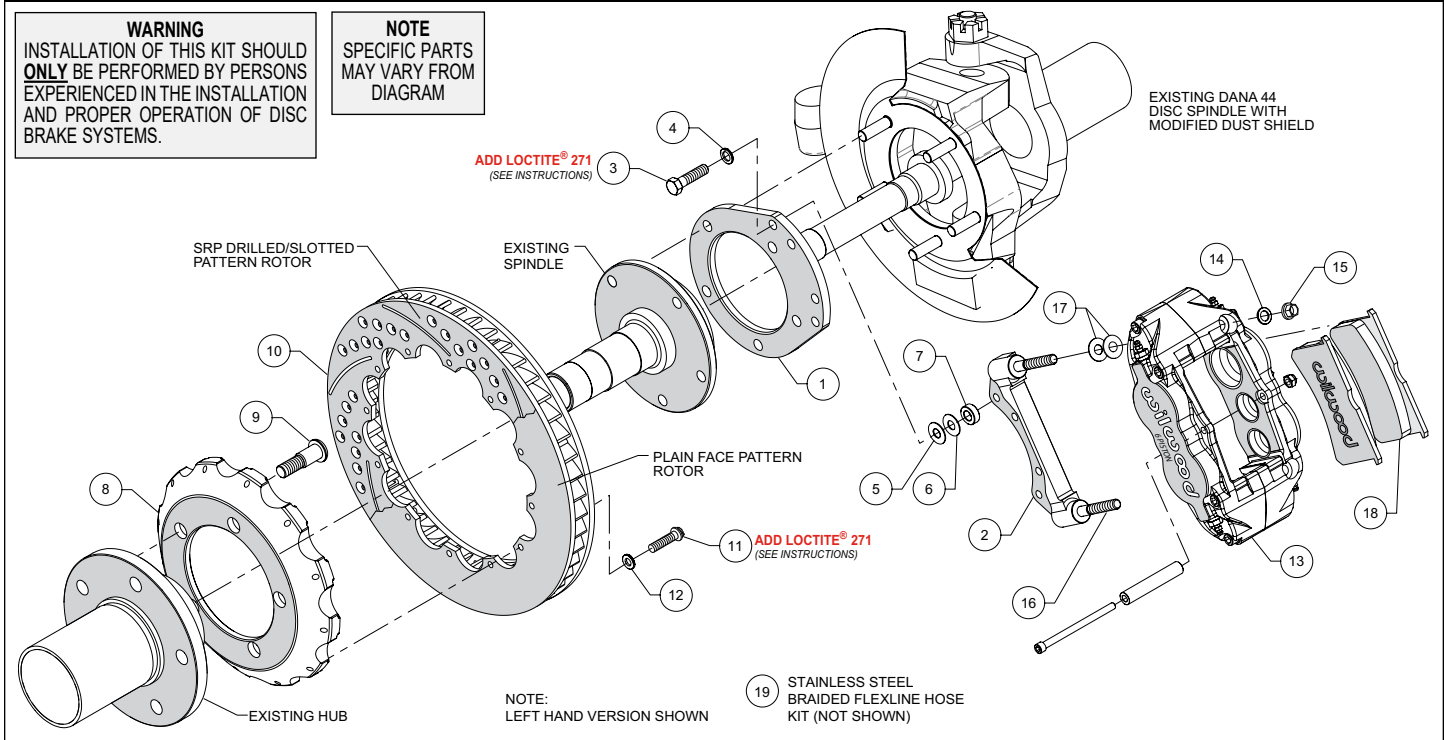

Figure 1. Typical Installation Configuration
**NOTE:** *Numbers in parenthesis refer to the parts list and Figure 1 on the preceding pages.*
- Orient the flat mount bracket (1) as shown in Figure 1 and Photo 1. Install the OEM spindle over the bracket and secure with OEM nuts, Photo 2. Temporarily tighten the mounting nuts. **NOTE:** *The bracket must fit squarely against the mount bosses on the upright.* Inspect for interference from casting irregularities, machining ridges, burrs, etc. Remove nuts one at a time, apply red *Loctite*® 271 to the bolt threads and torque nuts to OEM specification.
- The caliper mount bracket (2) should initially be installed with clean, dry threads on the mounting bolts. Orient the bracket as shown in Figure 1 and Photo 3, and install using mount bolts (3) and washers (4). Initially place one .035" thick shim (5) and spacer (7) on each bolt between the flat and caliper brackets, Figure 1. Temporarily tighten the mounting bolts. Later, after the caliper alignment has been checked, the mount bolts will be secured using red *Loctite*® 271.
- Orient the hat (8) and the OEM hub as shown in Figure 1 and Photo 4. **NOTE:** *The hat must fit flush against the hub or excessive rotor run out may result.* Install the wheel studs (9) thru
- Orient the rotor (10) and the hat/hub assembly as shown in Figure 1 and Photo 5. Attach rotor to hat using bolts (11) and washers (12). Apply red *Loctite*® 271 to the bolt threads and torque to 155 **in-lb** using a criss-cross pattern. For an added measure of security, the
•**NOTE:** This kit contains distinct right and left hand calipers that must be mounted in a specific direction, as described below. Initially place two .035" thick shims (17) on each stud (16) as shown in Figure 1 and Photo 6. Mount the caliper (13) onto the bracket (2) using lock nuts (15) and washers (14), Figure 1. Temporarily tighten the lock nuts. Ensure that the caliper is mounted so the largest pistons are at the rotor exit end of the caliper, in relation to the direction of the rotor. View the rotor through the top opening of the caliper. The rotor should be centered in the caliper, Photo 7. If not, adjust by adding or subtracting shims (5 and/or 6) between the spindle bracket and caliper bracket. Always use the same amount of shims on each of the four mounting bolts. Once the caliper alignment is correct, remove the bracket to bracket mounting bolts (3) one at a time, apply red *Loctite*® 271 to the threads, and torque to 35 ft-lb.